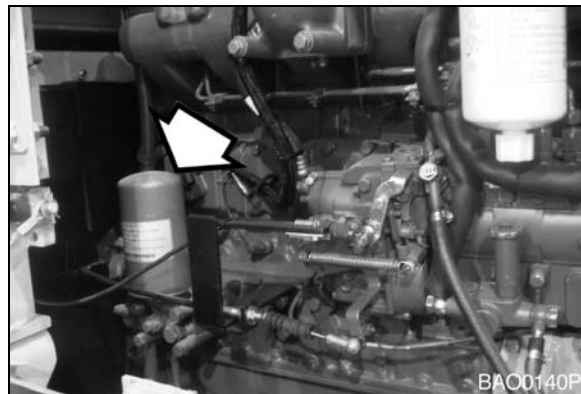

Figure 63 (S/N 4001 and Up)
2. Replace engine oil filter (Figure 63). The engine oil filter is a spin-on type. Remove and discard filter.